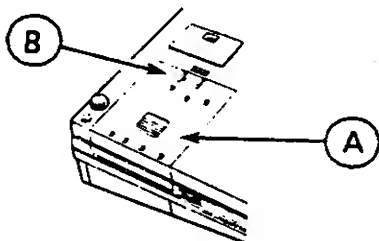

Figure 930-2 Battery Pack Location
3. Place one of your thumbs at point A and the other thumb on point B as indicated in Figure 930-2.